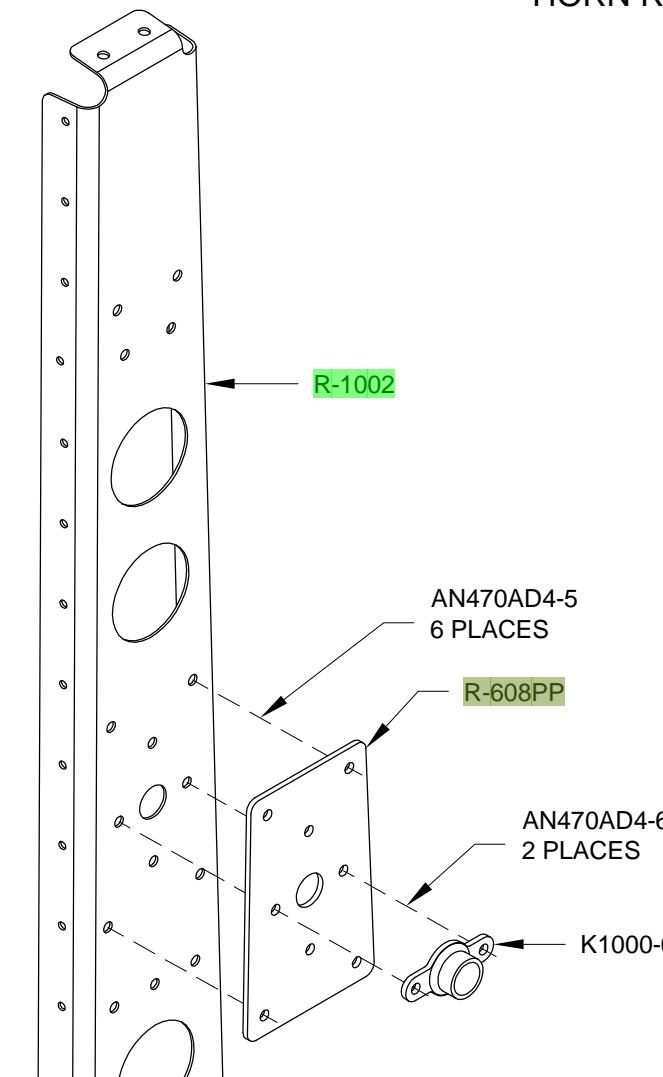
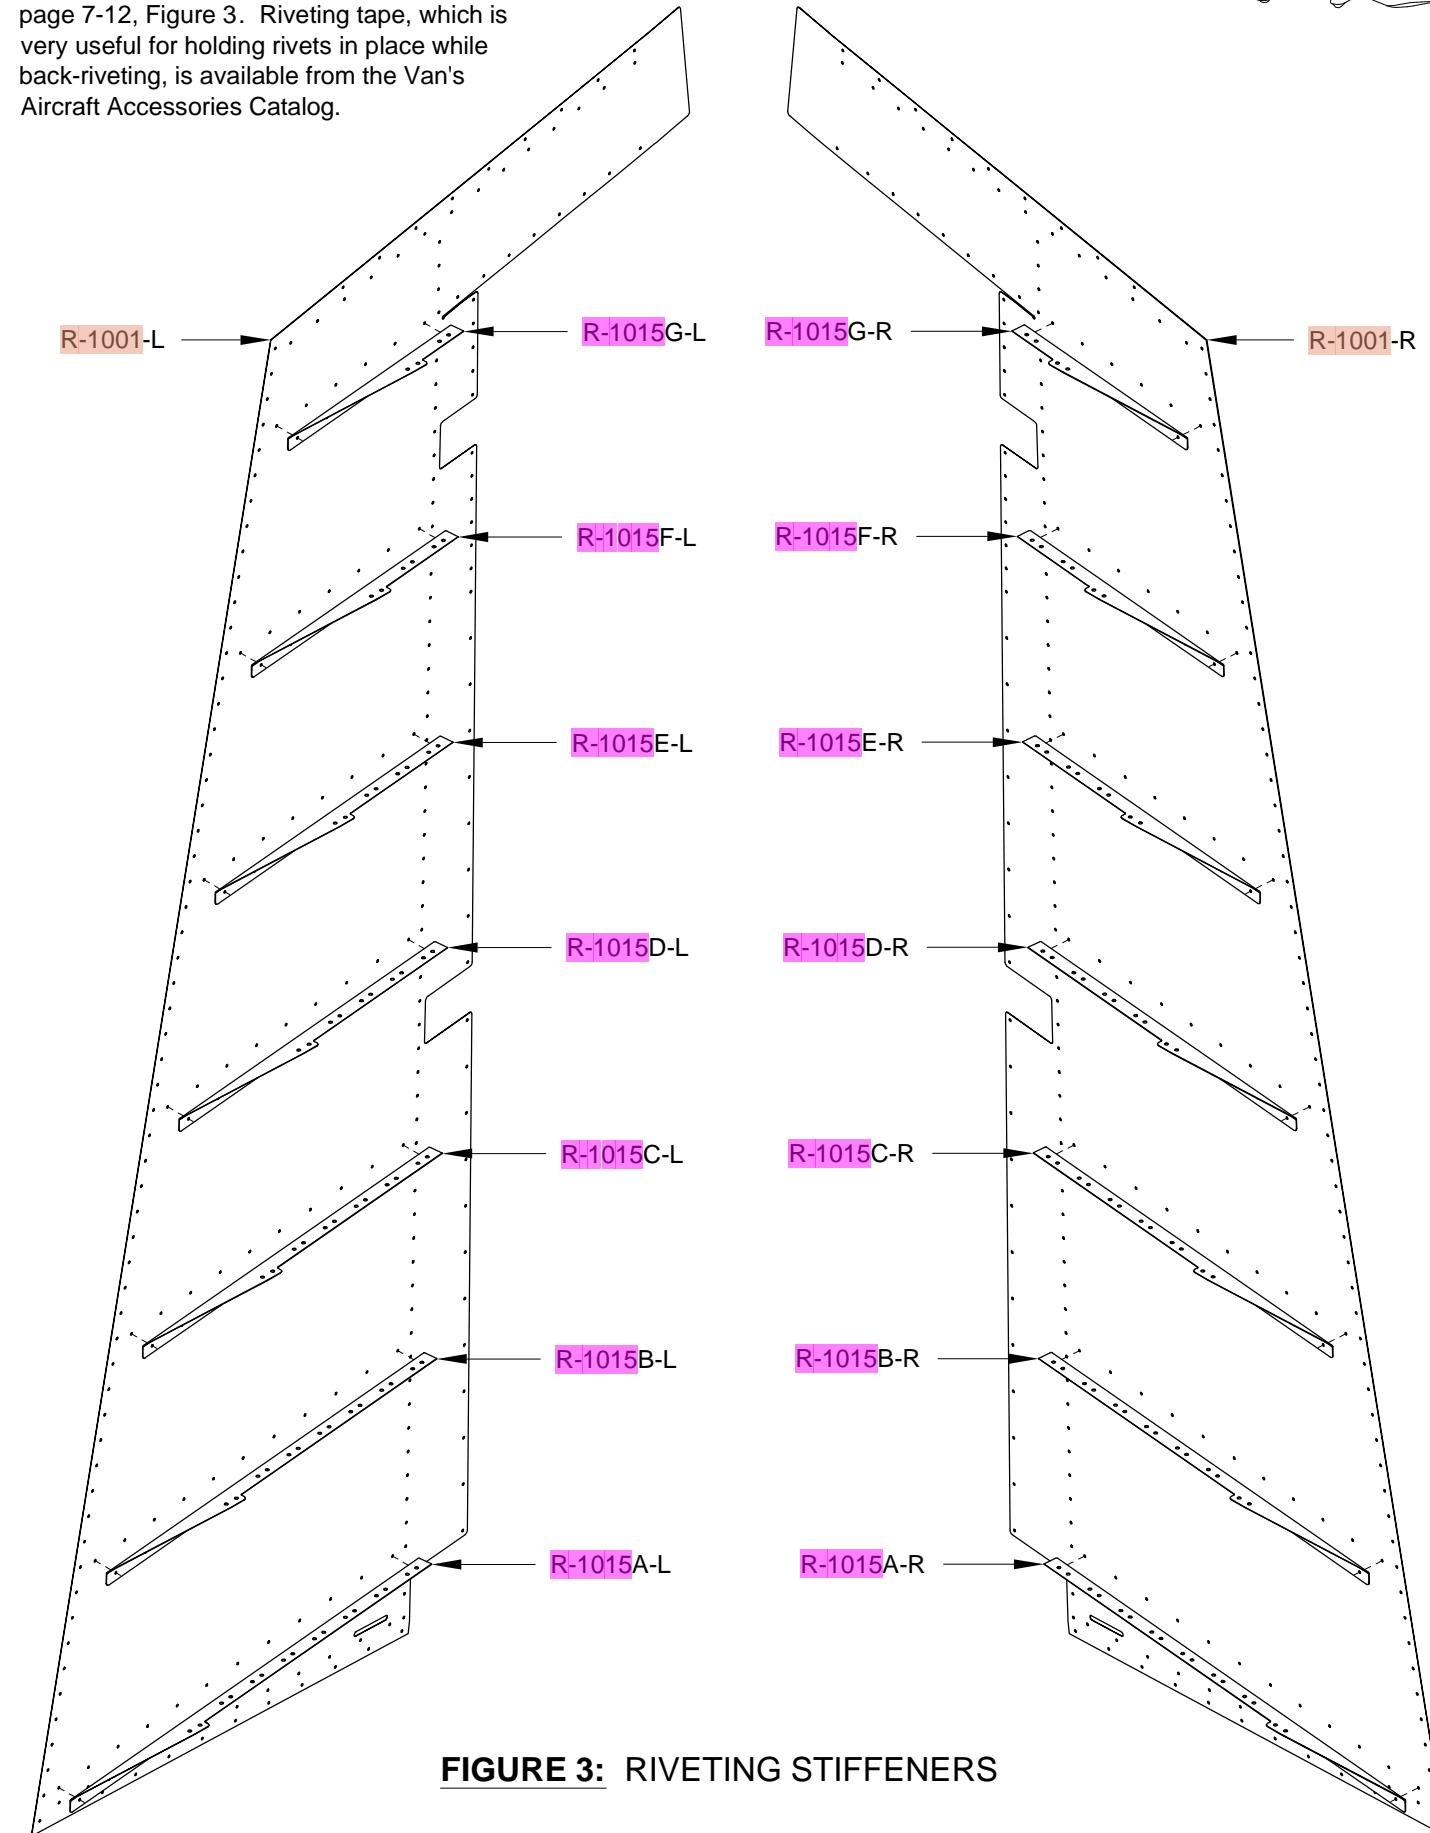
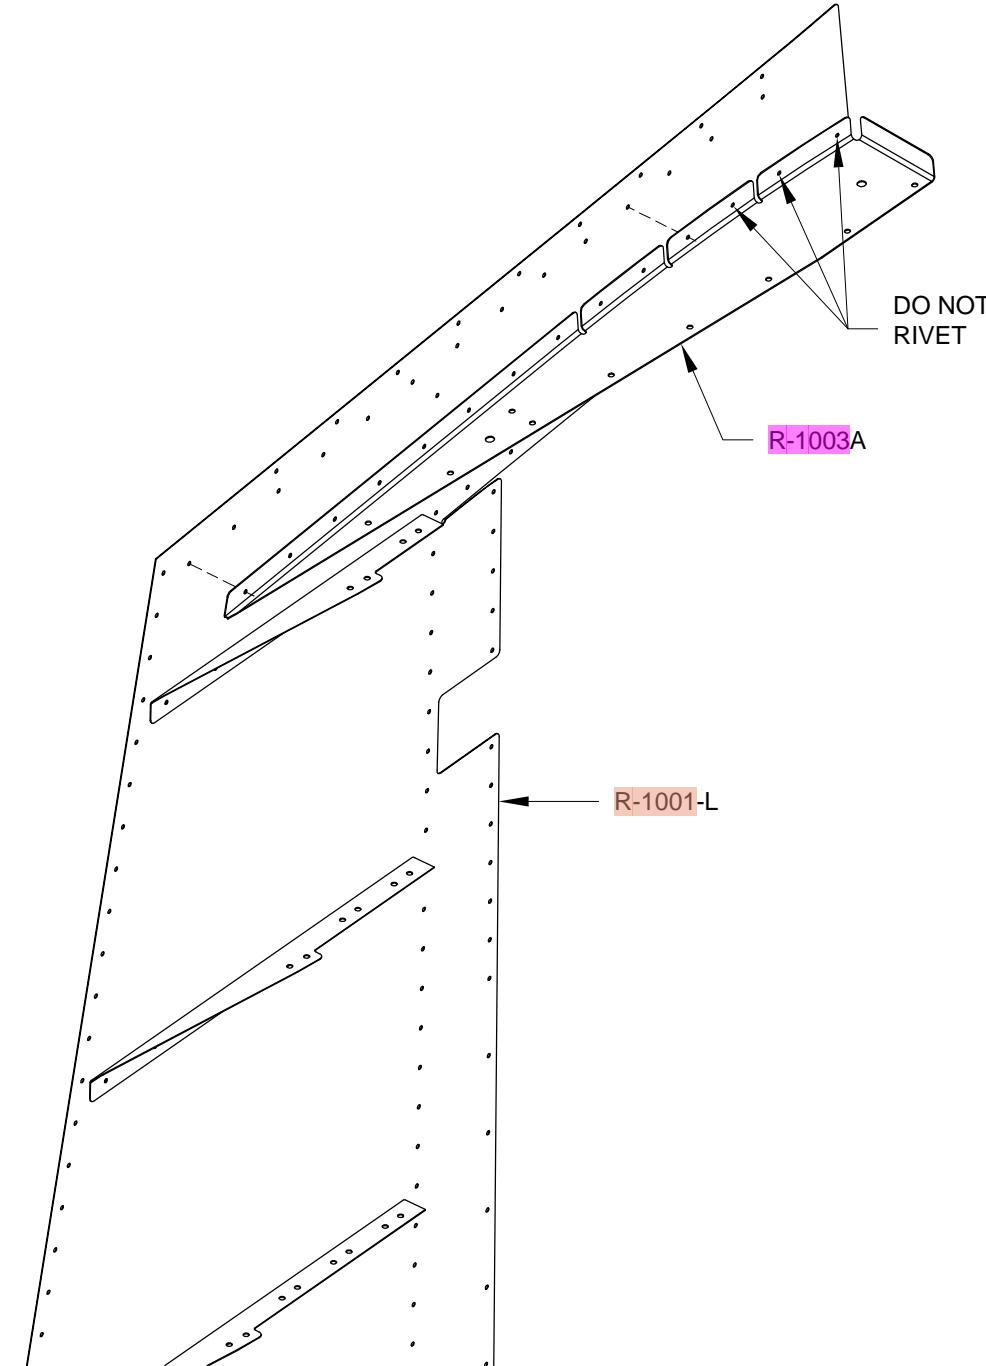

FIGURE 2: REINFORCEMENT PLATE RIVETS
FIGURE 3: RIVETING STIFFENERS
FIGURE 1: RIVETING THE R-1003A TOP RIB HALF
Step 4: Repeat step 3 for the R-607PP Reinforcement Plate (as located on Page 7-5, Figure 2) using the same rivets and an additional nutplate.
Step 5: Back rivet (see Section 5F) all the R-1015 Stiffeners to the R-1001 Skins, as shown in Figure 2, using the rivets shown on page 7-12, Figure 3. Riveting tape, which is very useful for holding rivets in place while back-riveting, is available from the Van's Aircraft Accessories Catalog.
Step 1: Position the R-1003A Top Rib half on the R-1001-L Skin as shown in Figure 1. Rivet it in place using the rivets called out on page 7-12, Figure 3. However, leave open the forward three holes to allow the skin to be pulled back for access when attaching the counterbalance weight.